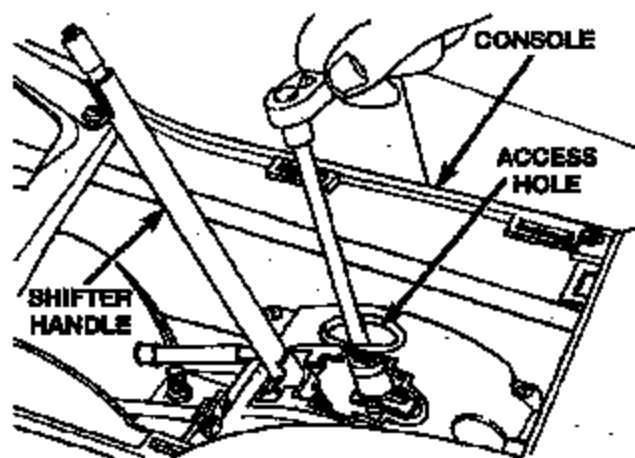

Figure 8
- a. Loosen the gearshift cable adjuster nut at the shifter assembly (Figure 8).
- e. Tighten the adjuster nut to 225 in. lbs. (25 N·m) (Figure 8).